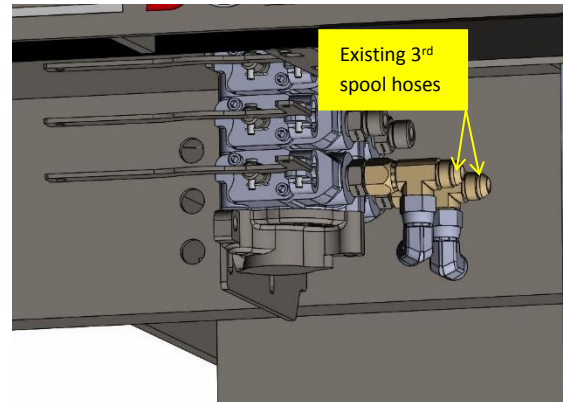

Figure 2
- Install two (2) of the four (4) snap rings (**Item 8**) into each of the lower grooves of both Pioneer quick couplers (**Item 5**). Install the o-ring base 90° elbows (**Item 2**) into the Pioneer quick couplers, tighten and set them aside.
3. Route the two (2) hoses (**Item 1**) between the top of the Hydrabed frame and the bottom of the floor plate approximately 12" from the front of the bed. Pull enough of the hoses through to reach the 3rd spool valve.
4. Thoroughly clean the 3rd spool hose fittings at the valve before removing the hoses to avoid contaminating the fluid and valve fittings. Use a container to catch the fluid and remove the 3rd spool hoses (**Note: This step is for two (2) sets of quick couplers. If only one set is to be used, skip to step 7).**
5. Connect the two (2) #8 JIC 90° elbows (**Item 3**) to the bottom fitting of the two (2) run-tees (**Item 4**) and leave loose to aid in hose installation.
6. Connect the assembled run-tees to the open 3rd spool valve ports as shown and reconnect the existing 3rd spool hoses to the tees. Leave the fittings loose to aid in new quick coupler hose installation. Figure 2